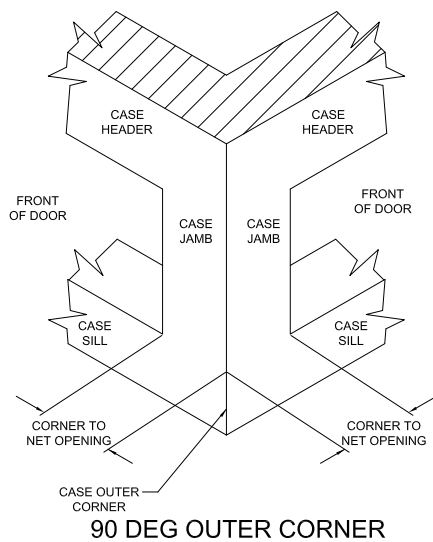

Figure 11
- b. 26", 28" and 30" doors take 7-1/2" X 7 -1/2" corner measured the same as 23" doors. Refer to Figure 11 .